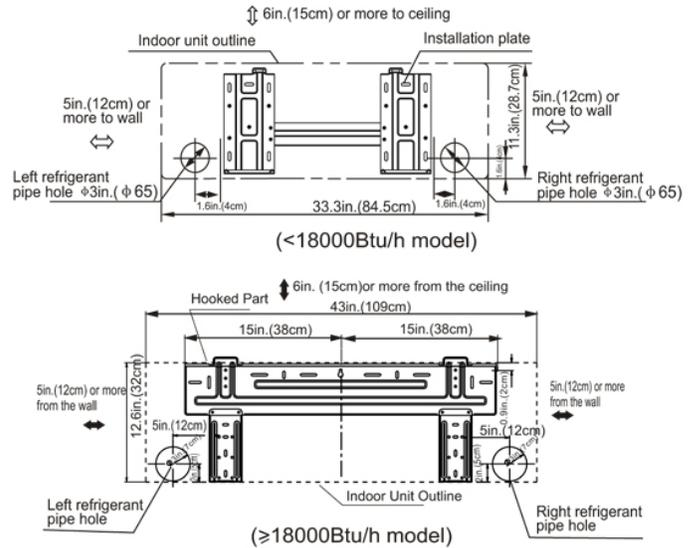
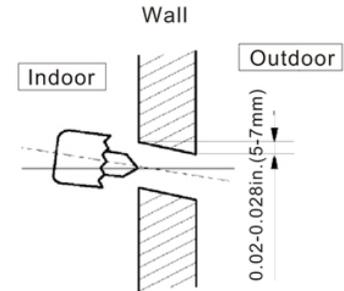

Fig.5
Fig.6
- Determine hole positions according to the diagram detailed in Fig.5. Drill one (1) hole (3in. (65mm)) slanting slightly toward the outdoors, as shown in Fig. 6.